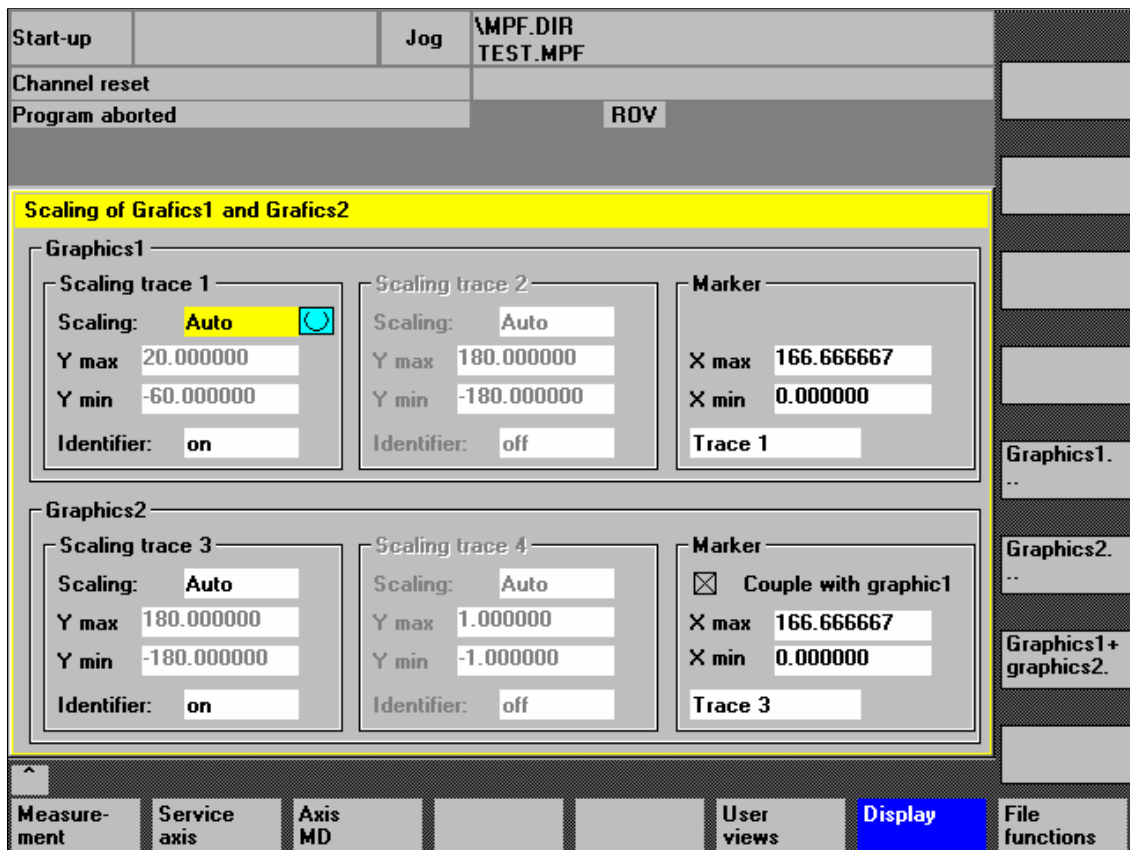

Fig. 13-7 Menu: Scaling of graphics
- Switching over the display from double to single graphics and vice versa (this function also exists in the scaling menu Fig. 13-7, page 13-432)